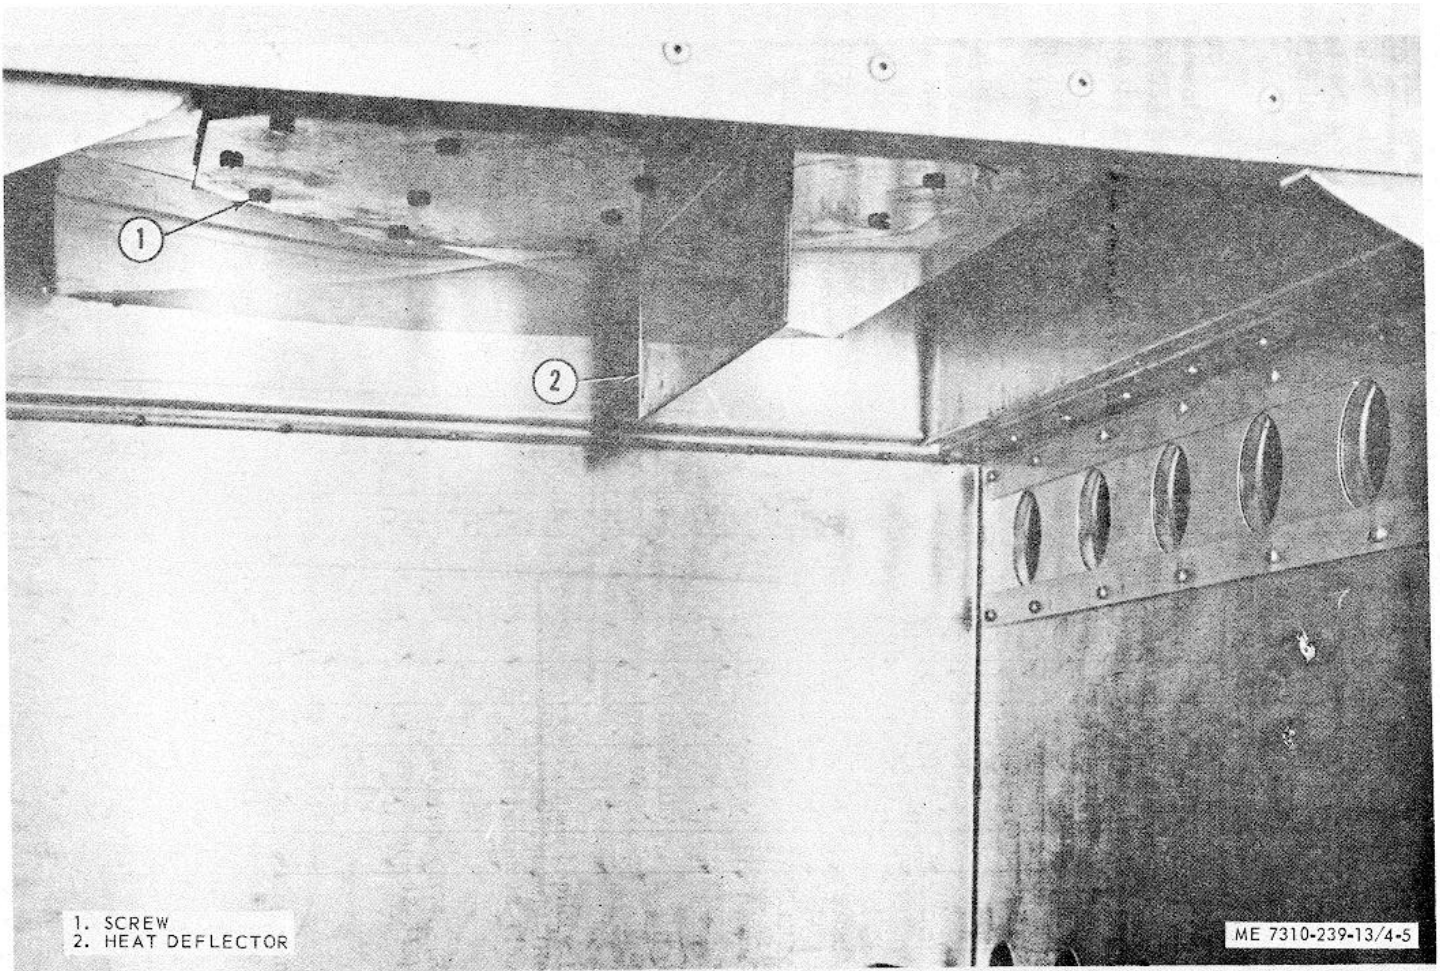

Figure 4-5. Heat deflector, removal and installation.
*a. General.* The heat deflector (2, fig. 4-5), located inside of and at the top of the burner compartment, is provided for the distribution of heat to both sides of the oven.
*b. Removal.* Slide burner unit out of burner compartment. Remove screws (1) holding deflector